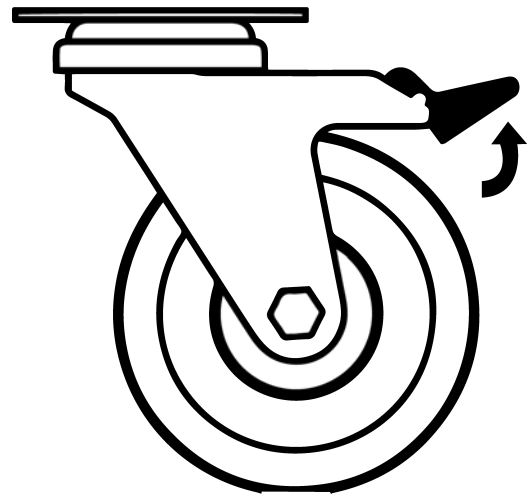

Fig 2. Castor Unlocked
- Ensure when placing the incubator into place that the castors can be accessed so they can be locked (**Fig 3**) and unlocked (**Fig 2**). Please contact your supplier or Thermoline should there be any damage to the castors.